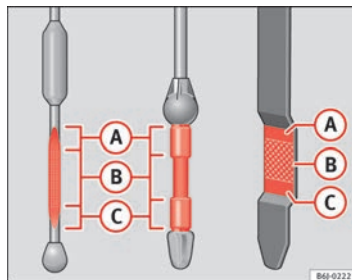

Fig. 126 Engine oil dipstick
- Then pull it out once more and check the oil level ⇒ fig. 126. Top up with engine oil if necessary.